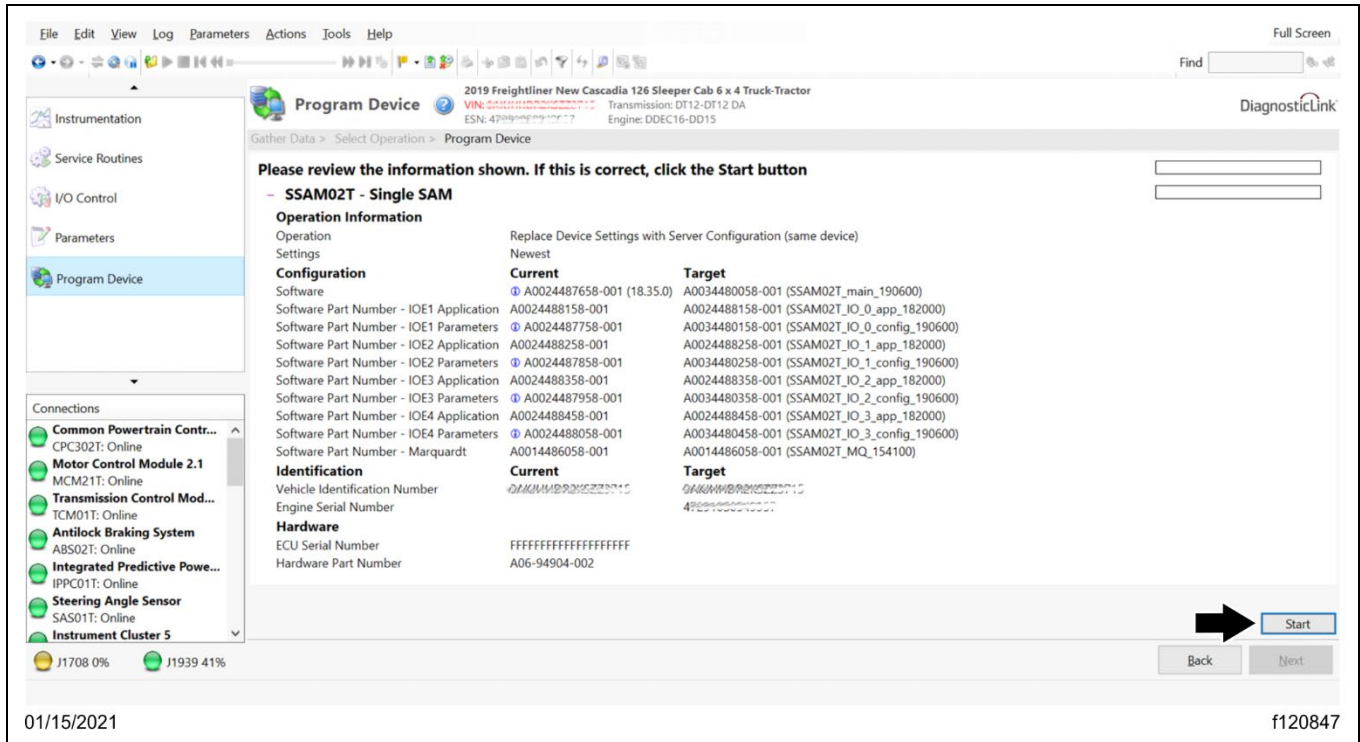

Fig. 19, Select Start to Program the Selected Device (ECU)
7.10. Verify the VIN and hardware part number again, then select 'Start' to program the sSAM. See **Fig. 19**.